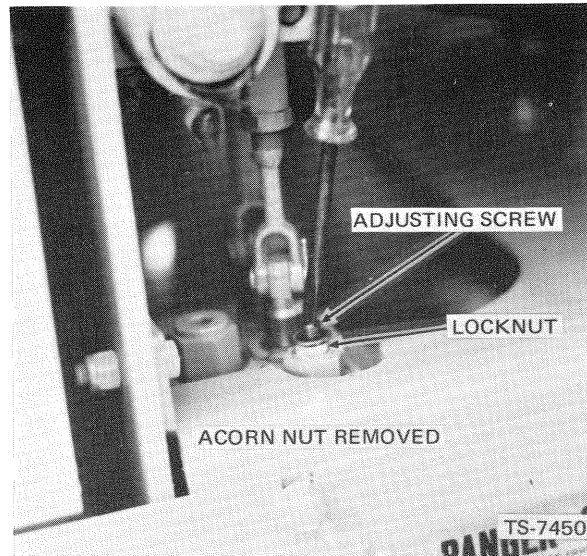

Fig. 10-6 Adjust Pressure — Main Relief Valve
5. Put the machine into a full left hand turn and hold the lever in the full turn position. The gauges should register 1,600 p.s.i. at 2,000 rpm. If not, adjust the main relief by removing the acorn nut, loosening the jam nut and adjusting the set screw located on the top of the main control valve assembly until 1,600 p.s.i. registers on the gauge. Fig. 10-6